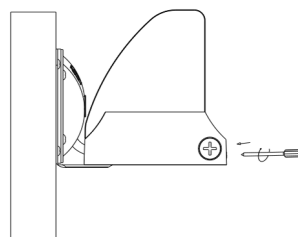

Figure 3-6
6. Push the wires into junction box; after installation , tighten the screws. (Figure 3-6)